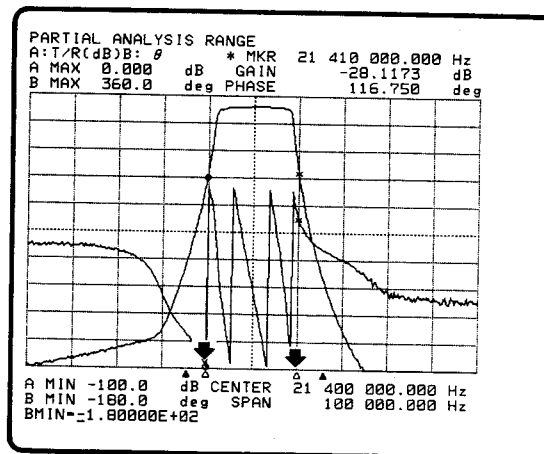

Figure 3-94. Partial Analysis Range
4. Verify the range settings by pressing the **'PART ANA on/off'** softkey, the soft key label should change to intensified green. The "▲" marks will be displayed below the graticule as shown in Figure 3-94.
4. Press the **'PART ANA on/off'** softkey the softkey label will change to intensified green. The "▲" marks will be displayed below the graticule as shown in Figure 3-94.